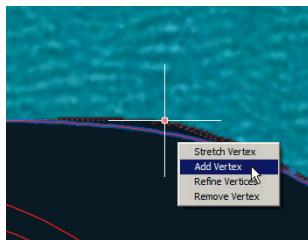

FIGURE 5.13 Adding and removing vertices from a CV spline using multifunction grips
- Try adding and removing vertices using the corresponding choices on the multifunction grip menu (see Figure 5.13).